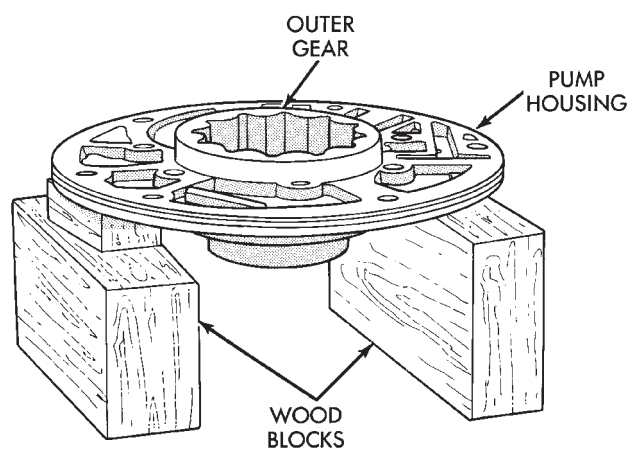

Fig. 52 Supporting Pump And Installing Outer Gear
(1) Lubricate gear bore in pump housing with transmission fluid.
(2) Lubricate pump gears with transmission fluid.
(3) Support pump housing on wood blocks (Fig. 52).
(4) Install outer gear in pump housing (Fig. 52). Gear can be installed either way (it is not a one-way fit).